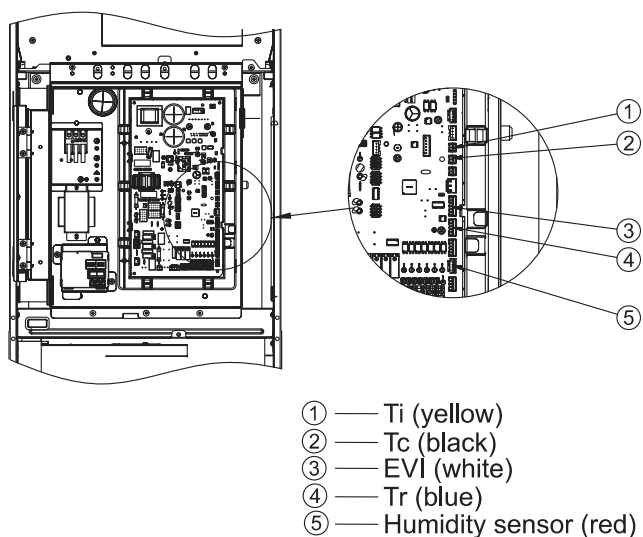

Fig. 2
(2) Remove the wiring clamps, Ti(Air inlet temperature sensor), Tc(Coil temperature sensor), EVI(Micro-Computer Control Expansion Valve), Tr(Refrigerant sensor) and humidity sensor from the socket. Take out the wires from the electrical box plugs, and put them together with the evaporator (Take care not to damage the wires and plugs). (Refer to Fig.2)